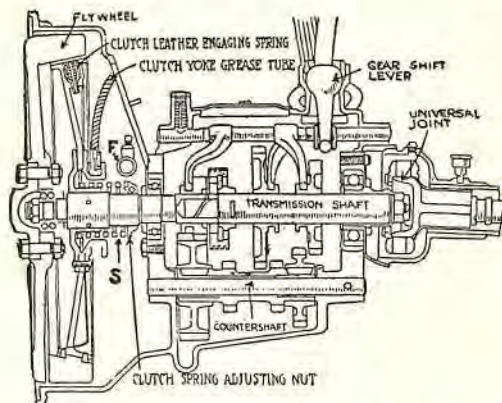
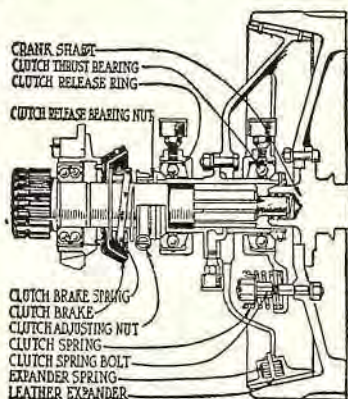

Fig. 8. Cone clutch and transmission used on the early model Dodge cars. Note the position of the main clutch spring (S).
Fig. 9. Note the position of the clutch spring.
Clutch release ring bearings may be worn, as a result of lack of lubrication. If run while dry, they are liable to seize and to prevent clutch releasing entirely, in which case new bearings must be fitted (see Fig. 9, page 841).
One method is as shown in Fig. 8. Note that the main clutch spring (S) is placed over the clutch shaft between the clutch spider and a collar provided with an adjusting nut.
Another arrangement of the main clutch springs is shown in Fig. 9. Note the main clutch spring is within the clutch spider.
The clutch-leather expanding adjustment, called the "clutch-leather engaging spring" in Fig. 8, and the "expander spring" in Fig. 9, is for the purpose of preventing "grabbing." The expanders are so placed as to present a slightly raised point of contact of the clutch leather to the fly-wheel inner surface.
The throw-out adjustment, or the amount of leverage for the distance to which the clutch is thrown out, is adjusted on the clutch pedal, or, on some clutches, at the shifter yoke collar, also termed the releasing ring. See Figs. 9 and 11.
Clutch release ring bearings (Fig. 9), which, by pressure upon the clutch release ring, disengage the clutch from the flywheel, should be kept well greased or oiled, as the case may be.